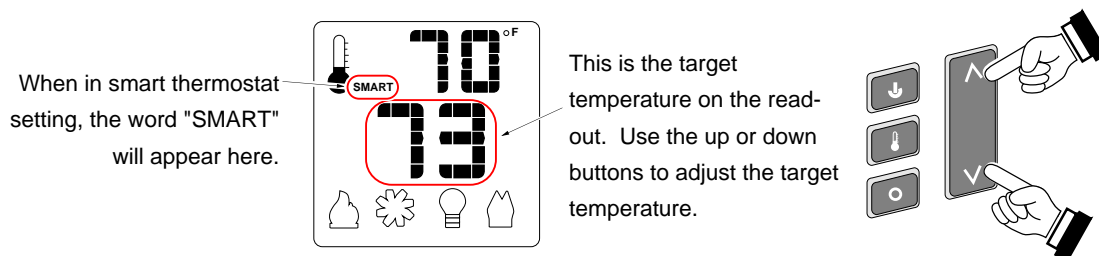

Figure 8
- **SMART THERMOSTAT** – While in smart thermostat, the transmitter will control the burner to achieve the target temperature (see Figure 8 below). Flame height will be adjusted up or down to allow operation without turning the burner on and off (also called "smart modulation"). To adjust the target temperature, press the UP and DOWN buttons until a suitable temperature is achieved.